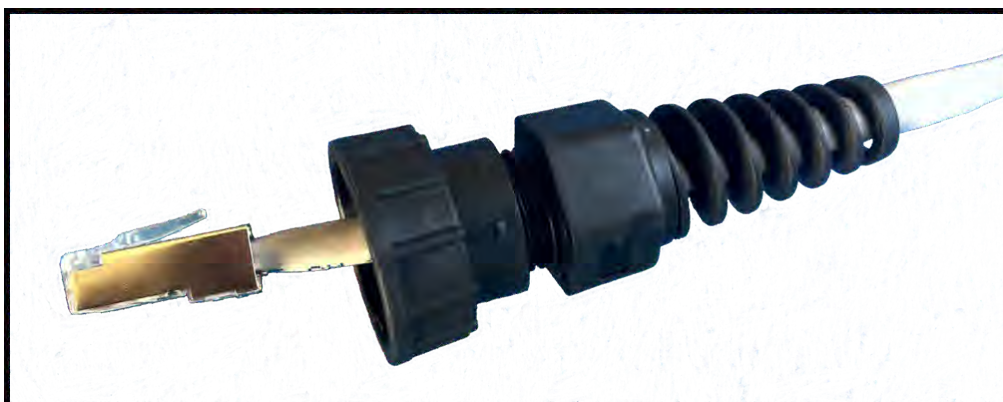

Figure 12: Strain relief on the connector
- Thread the strain relief onto the connector body and tighten a few turns (see Figure 12).